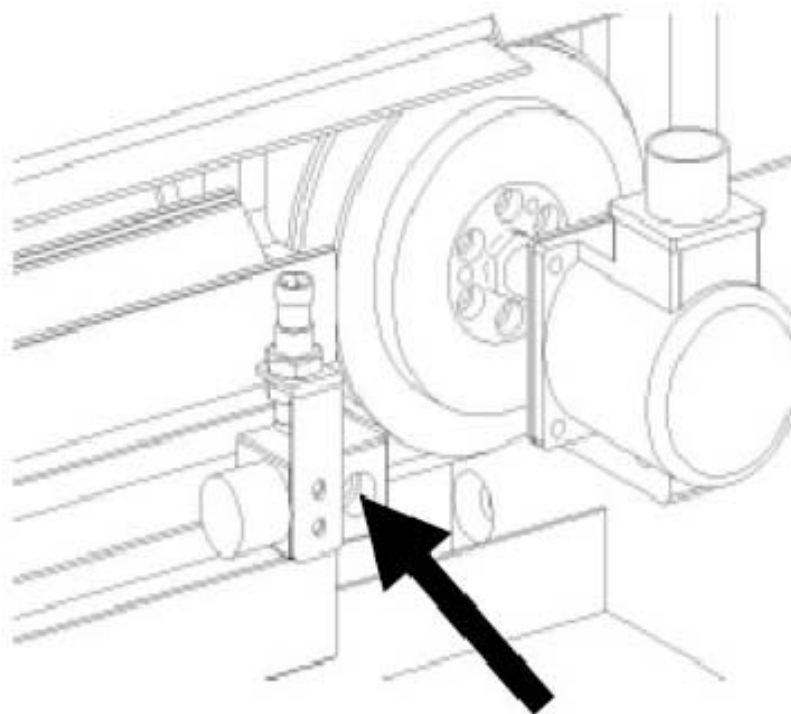

Fig. 5-29 Adjusting the limit assembly
4. See Fig 5-29. Unscrew the limit assembly, and slide it to the desired point of maximum stroke.